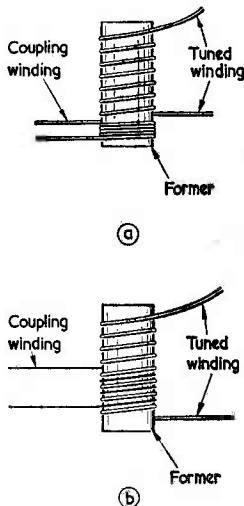
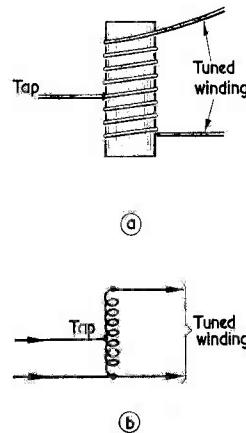

Fig. 162 (a). An r.f. transformer employing single-layer windings. The tuned winding could also be close-wound, as is the coupling winding
Fig. 163 (a). An r.f. autotransformer having a single-layer tuned winding
R.F. transformers intended for operation at frequencies higher than those associated with wavewindings employ single-layer tuned windings. Fig. 162 illustrates two types of coupling windings which may be employed with such transformers. In Fig. 162 (a) the coupling winding consists of a second single-layer winding which is positioned a small distance away from the tuned windings. In Fig. 162 (b) the coupling winding is interwound with the tuned winding. The coupling offered by the arrangement shown in Fig. 162 (a), can be varied by moving the coupling winding closer to or further away from the tuned winding. On the other hand, the coupling provided by the assembly of Fig. 162 (b) is fixed, and is, also, very tight. This coupling is, indeed, so tight that, apart from the possibility of damping of the tuned winding due to reflected resistive impedance in the circuit to which the coupling winding connects, it is also possible for *capacitive* or *inductive* reactances from the coupling winding circuit to be reflected into the tuned winding. The latter may cause the tuned circuit to shift from its correct resonant frequency. This effect need not necessarily be serious if the primary circuit impedance remains
The coupling method shown in Fig. 162 (b) is frequently encountered in the short wave tuned circuits of domestic "all-wave" receivers, where a high level of selectivity is not expected. The transformers will, then, be wound on inexpensive formers made of materials which fall into the Bakelite or Paxolin categories. Where high Q values are required it is more usual to employ a low-loss and/or ribbed former, whereupon the coupling arrangement of Fig. 162 (a) is preferable.
As with the wave-wound tuned winding, the tightest possible coupling to a single-layer coil is given by the autotransformer connection shown in Fig. 163. Since the coupling here is tighter than occurs with the coupling winding of Fig. 162 (b), the effects of reflected primary impedances are even more pronounced.³